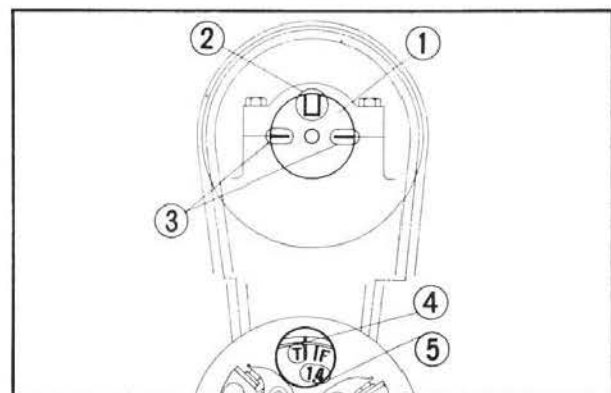

Fig. 3-40 ① Camshaft ④ "T" mark
- c. Assemble the cam chain on the sprocket before mounting the cam sprocket. Place the camshaft on top of the camshaft holder and align the timing index line on the right side of the camshaft, so that it is parallel to the top surface of the camshaft holder. (The key groove must be toward the top). In this condition the base circle of the No. 4 cam is toward the top and the No. 1 cam is in the overlap position. (Fig. 3-40, 41)